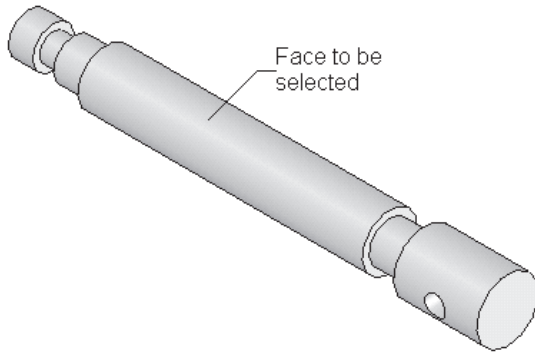

Figure 12-61 Face to be selected
- d. Drag and drop the Jaw Screw in the assembly document and apply the required mates, refer to Figures 12-61 through 12-66.
5. Press and hold the ALT key and then select the face from the location shown in Figure 12-61.